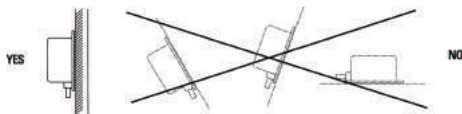

Figure 6
- 7) A gauge is calibrated in a vertical position; must install vertically (figure 6)